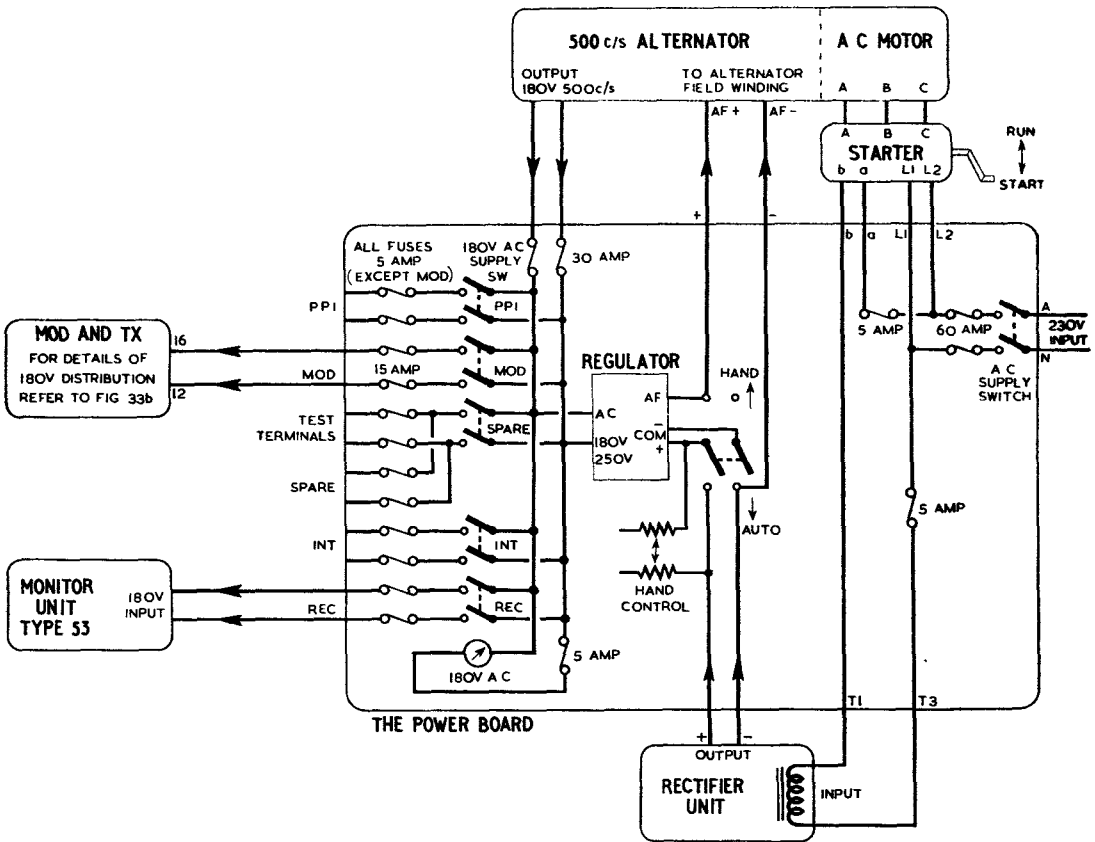

Fig. 32. 180V 500c/s power supply : wiring of power board
**96.** The internal wiring of the power board is shown in fig. 32 ; fig. 33 shows the distribution to the TR.3561.